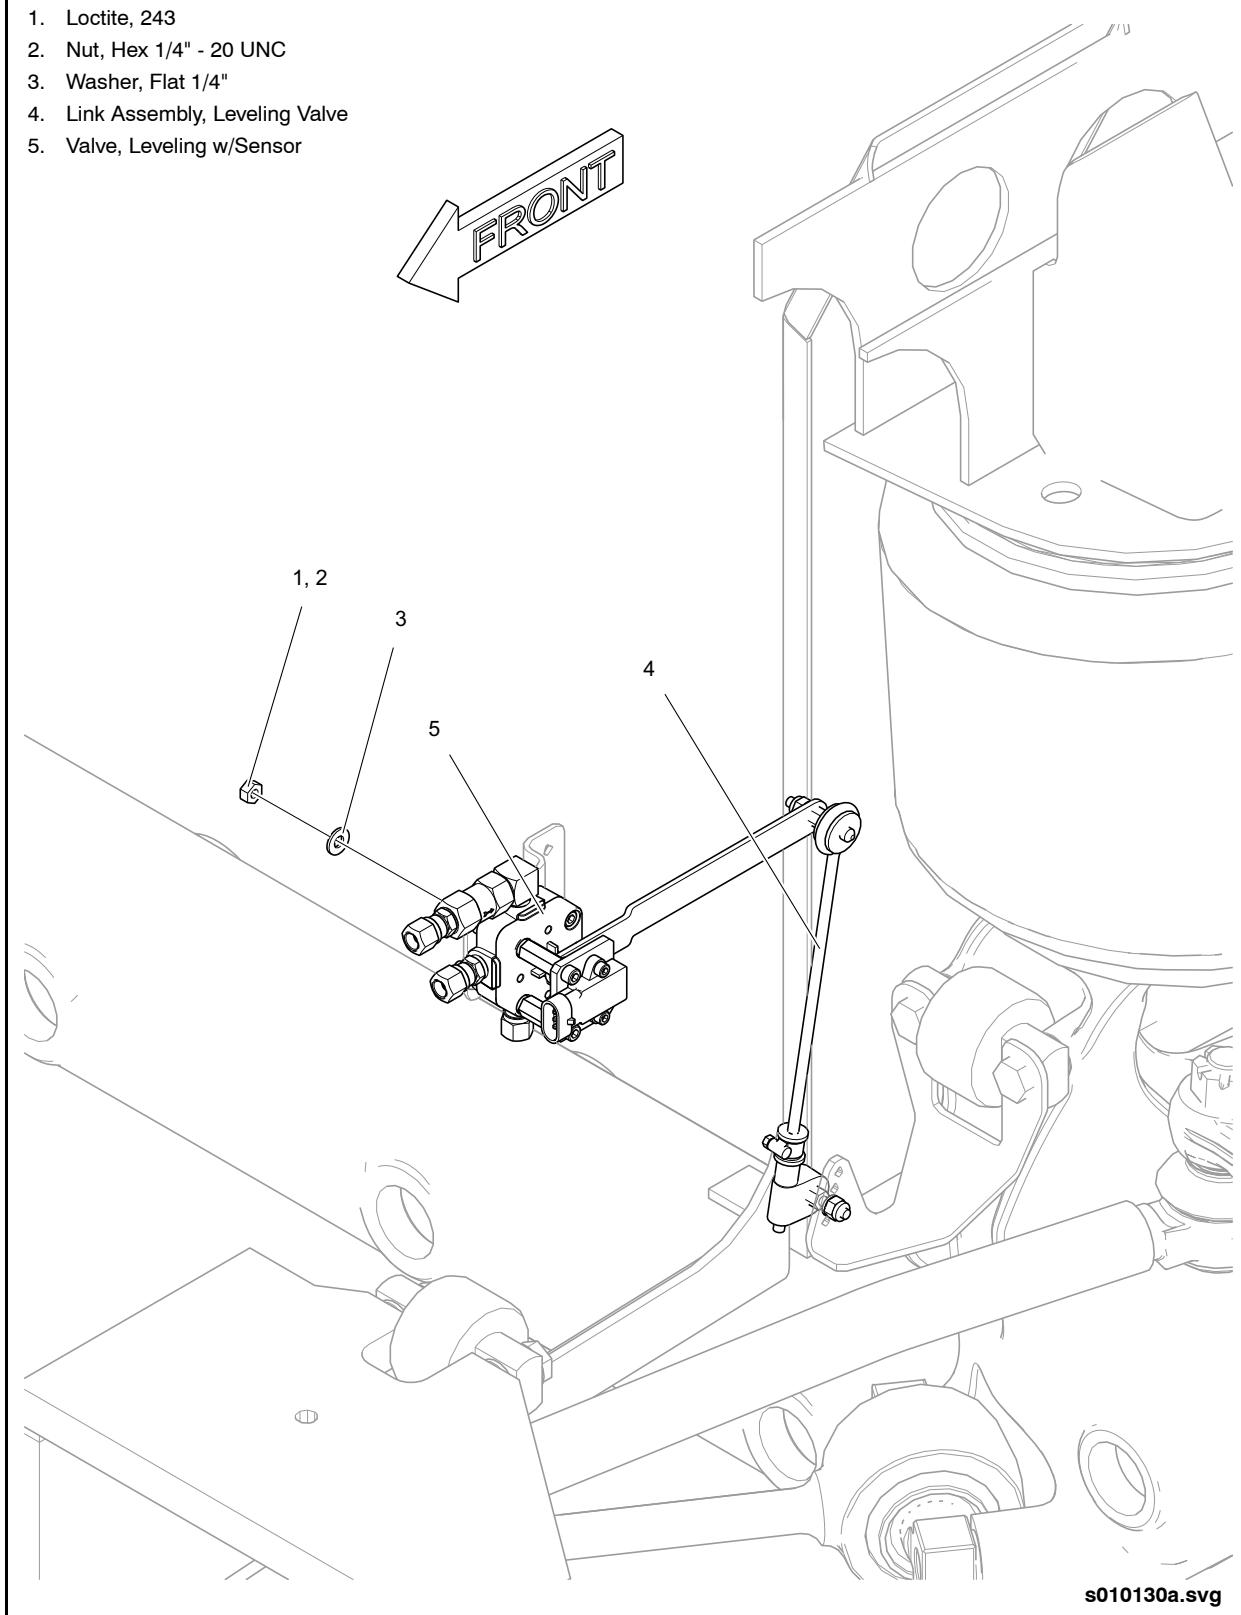
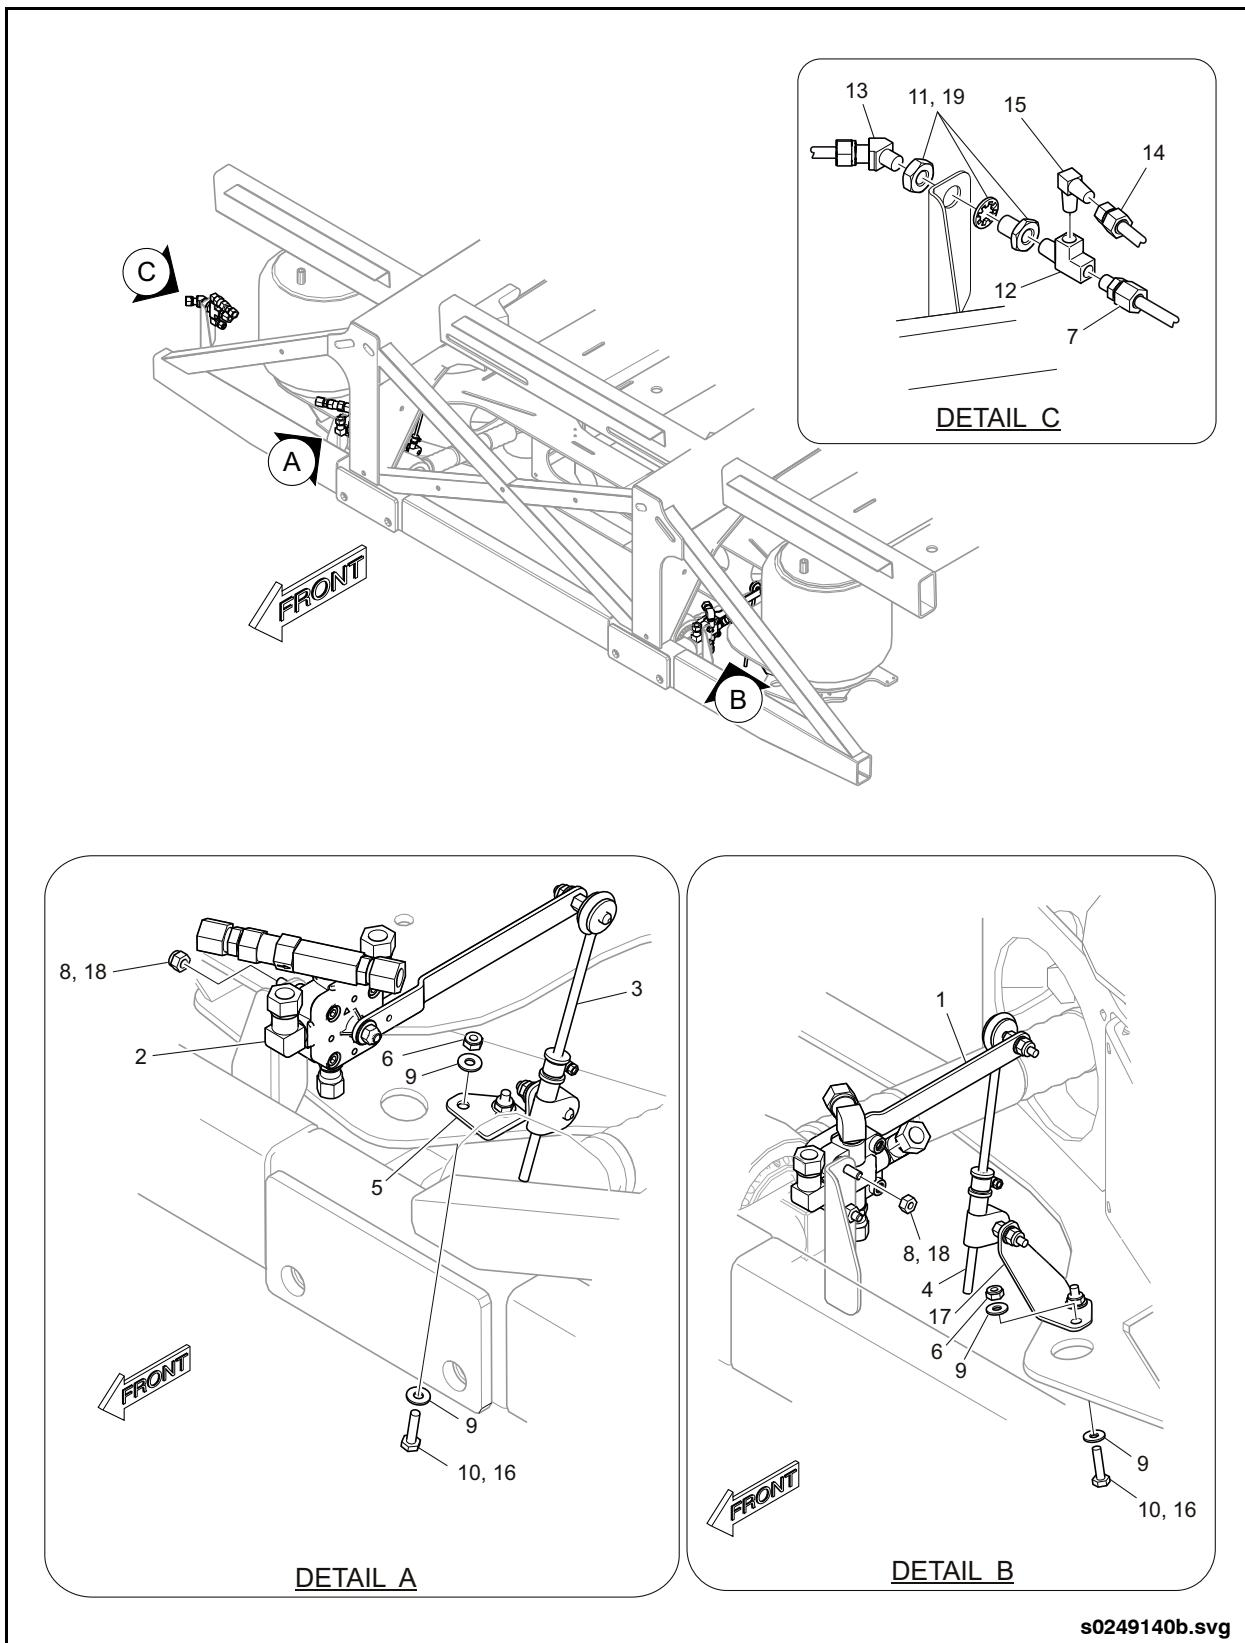

Fig. 8-27: Front Leveling Valve Installation
Fig. 8-28: Rear Leveling Valve Installation
1. Disconnect valve over-travel lever from the valve link. Pull lever downward to release compressed air from bellows. See "Fig. 8-27: Front Leveling Valve Installation" on page 89. See "Fig. 8-28: Rear Leveling Valve Installation" on page 90.